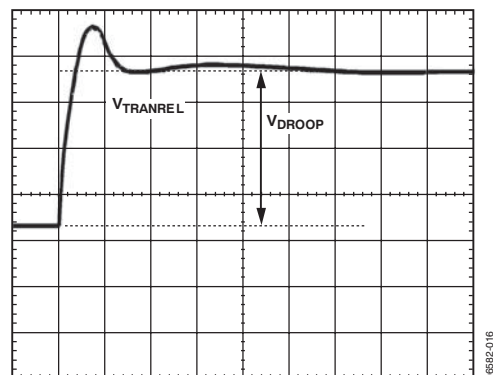

Figure 17. Transient Setting Waveform, Load Release
- For load release (see Figure 17), if  $V_{TRANREL}$  is larger than the IMVP-6 specification, there is not enough output capacitance. Either more capacitance is needed or the inductor values need to be smaller. If the inductors are changed, then start the design over using Equation 1 to Equation 39 and this tuning guide.